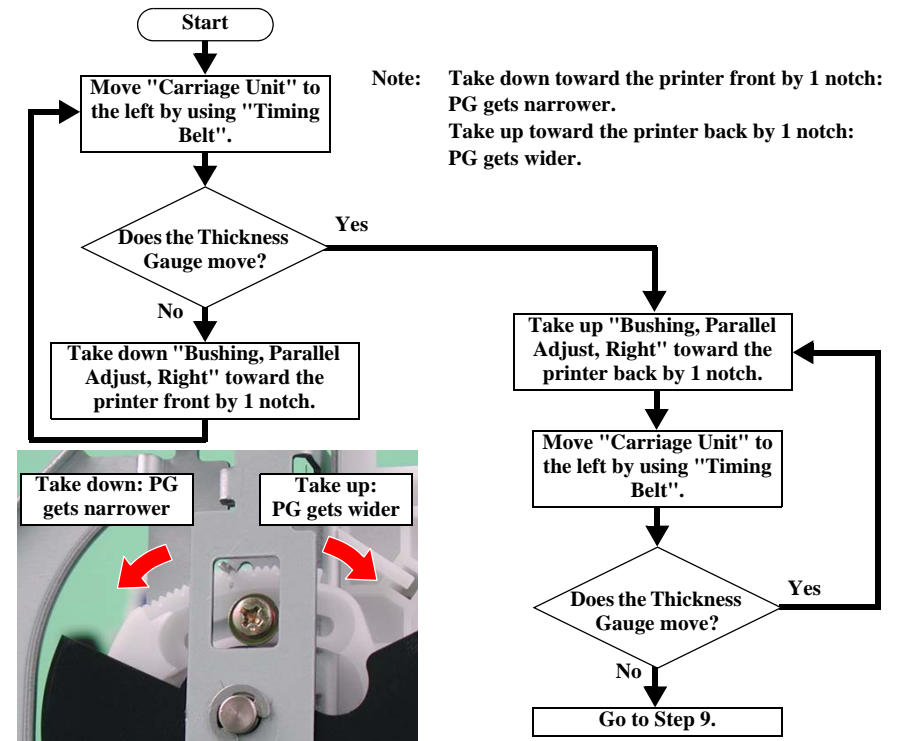

Figure 3-10. PG Adjustment (Right Side)
8. Implement PG Adjustment on the right according to the flowchart in the Figure 3-10.